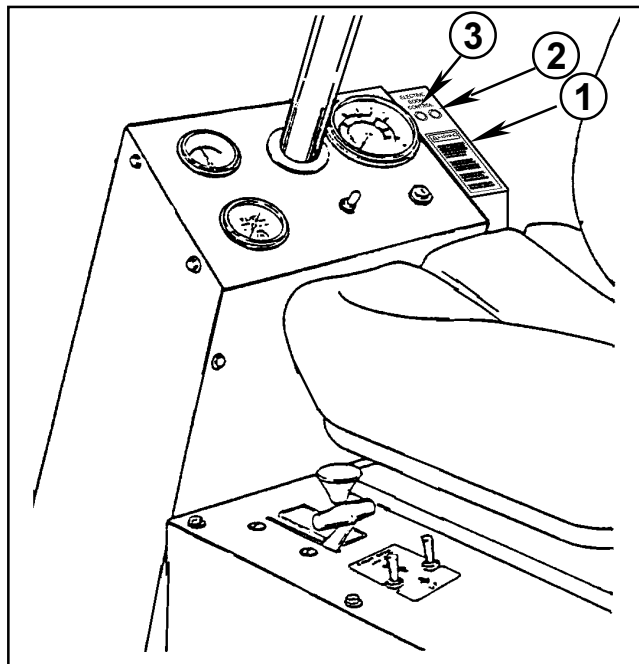

FIG. 4.
1. The electric brakes are operational when both the left and right indicator lights are illuminated when the brake pedal is depressed. See FIG. 4.